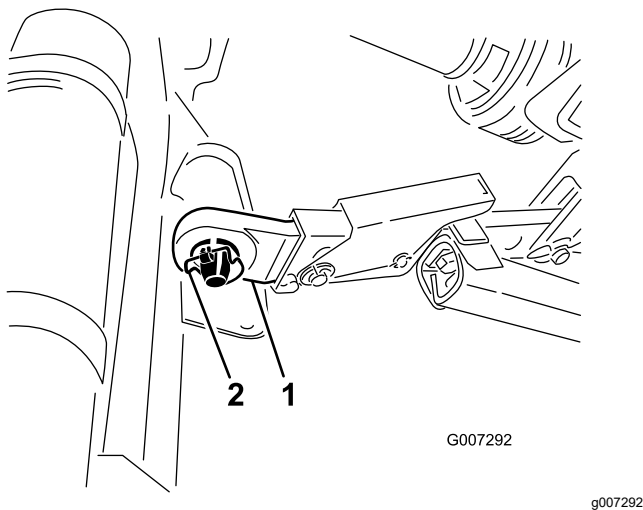

Figure 6
5. Insert the right and left lower link arms onto the hitch pins (Figure 6).
6. Secure the lower link arms to the hitch pins with the lynch pins (Figure 6).